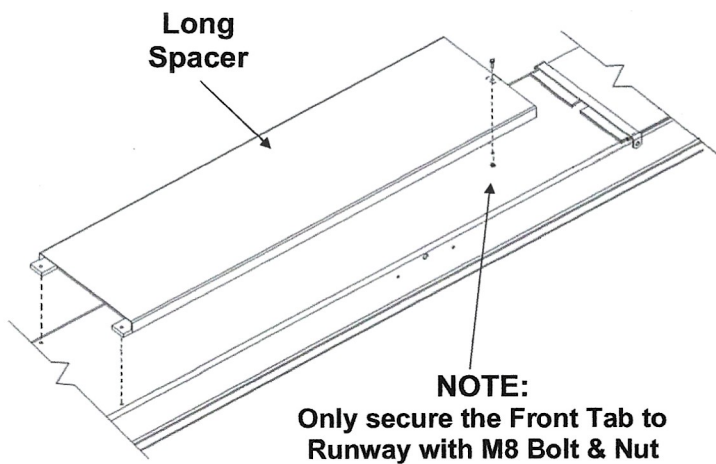

Fig. 4
- 5) Center and square the Long Spacer (#5) on Runway. Align the Tab Holes, bolting only the Front Tab to the Runway, secure using M8 Bolt & Nut - Fig. 4.